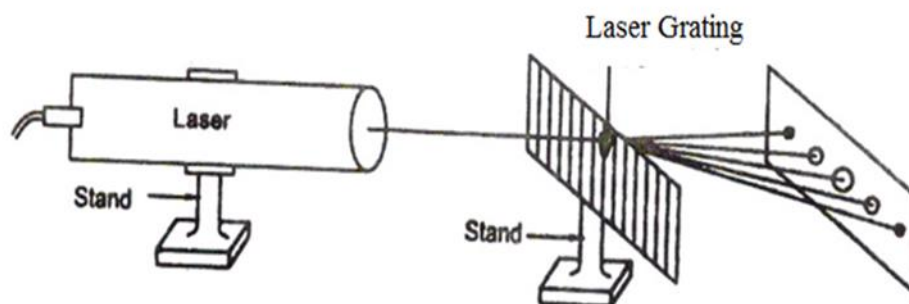

Fig. 1.1 Laser grating experiment
The laser source and the laser grating are mounted on separate stands as shown in Fig. 1.1. A fixed distance (D) is kept between the laser grating and the screen. The laser source is switched on, and the beam of laser beam is allowed to fall on the laser grating. The diffracted beams are collected on the screen. The diffracted beams appear as spots.